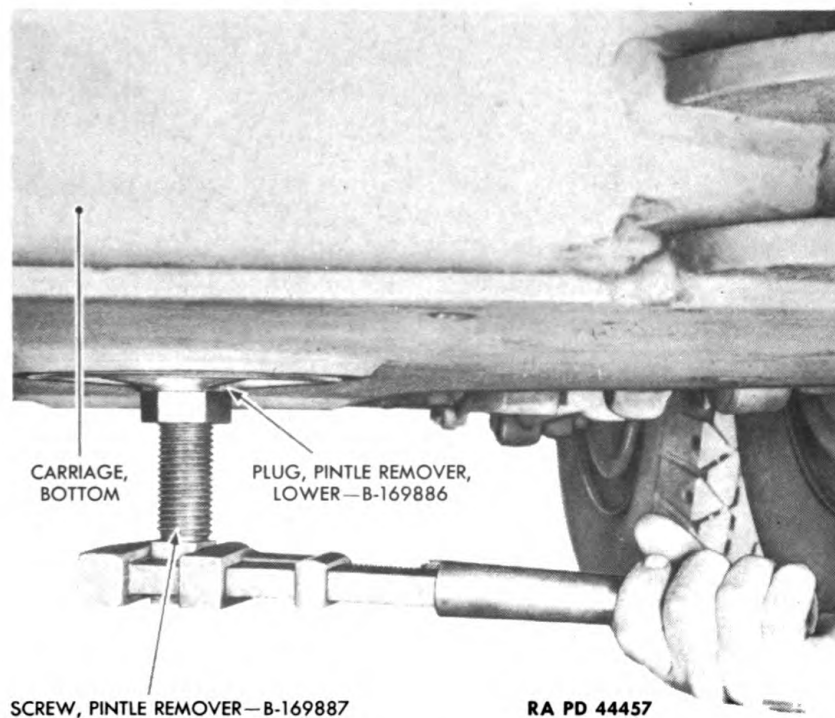

Figure 49—Removing Pintle from Bottom Carriage
g. Screw the pintle remover lower plug B169886 on pintle remover screw B169887 (fig. 21). Make certain the hexagonal part of lower plug is toward the nut end of screw. Insert the pintle remover plug and screw in place in bottom carriage by screwing plug in bottom carriage plug opening (fig. 49).